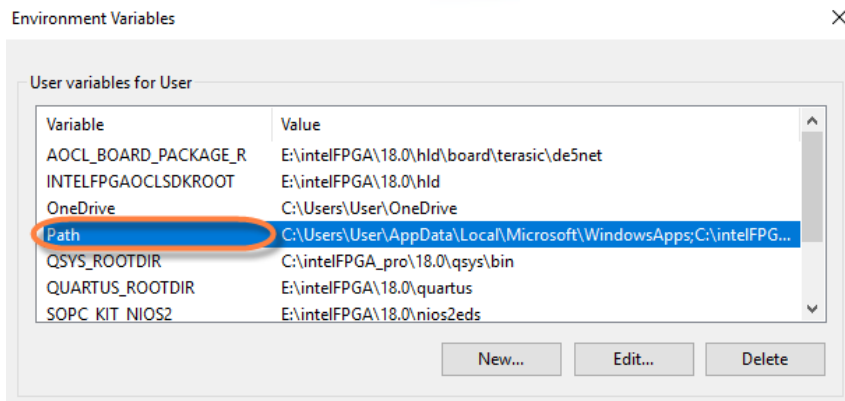

Figure 2-5 Select "Path" and click "Edit" bottom
4. In the Environment Variables window (as shown below), highlight the **Path** variable in the User Variable section and click the **Edit** button as shown in **Figure 2-5**.